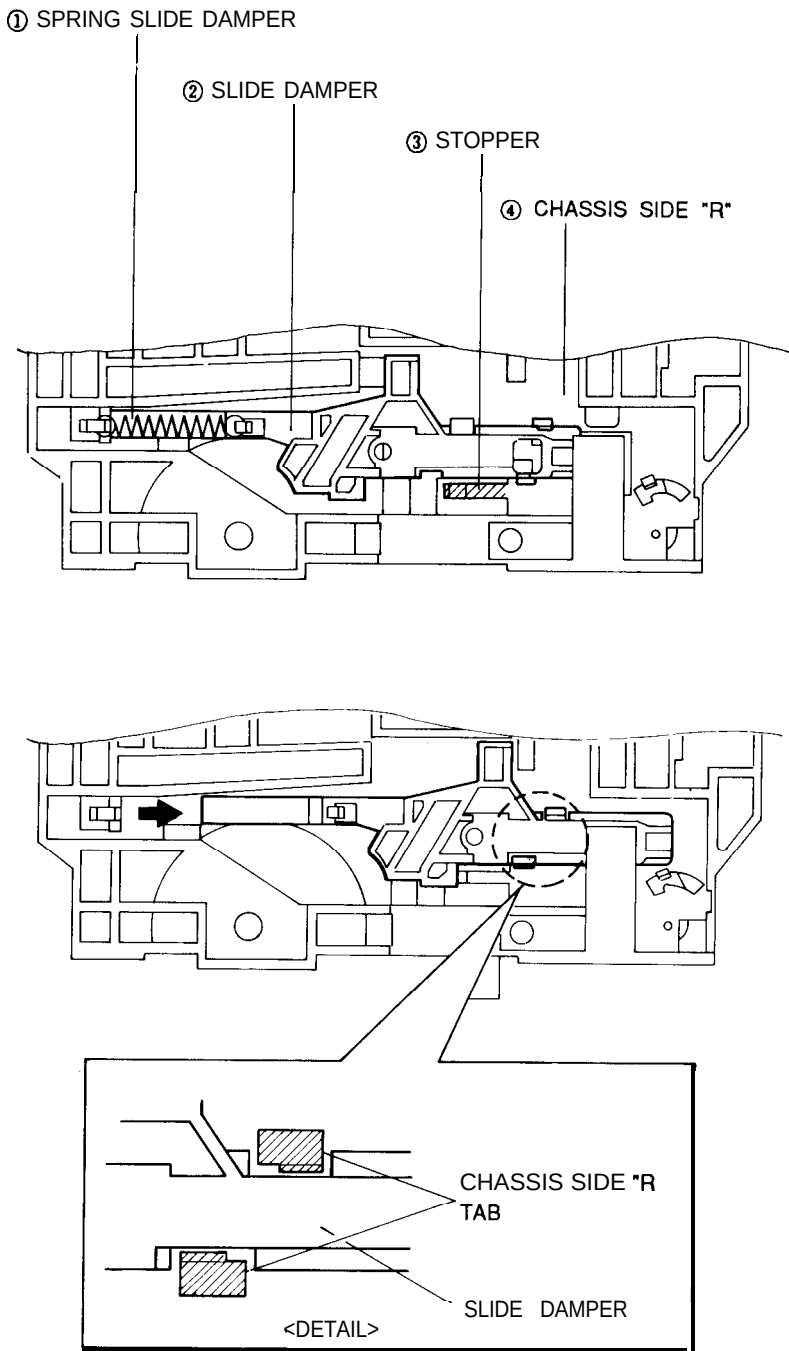

Fig. 17 Slide Damper Removal
- 1) Reinstall the motor stator ① toward the FPC cable of cylinder sub ass'y ②.
- 2) Secure with **three(3)** screws. (Refer to Fig. 17)